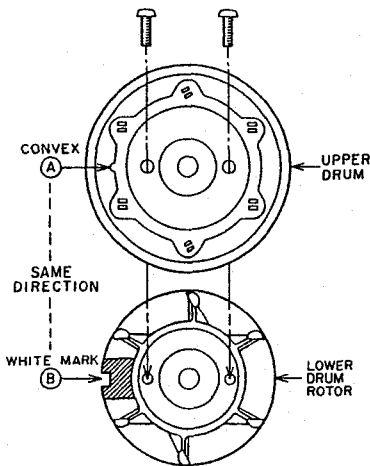

Fig. 3-20
- 1) Attach the UPPER DRUM to the LOWER DRUM ROTOR, so that the upper drum convex (A) and lower drum rotor's white mark line up, as shown in Fig. 3-20.